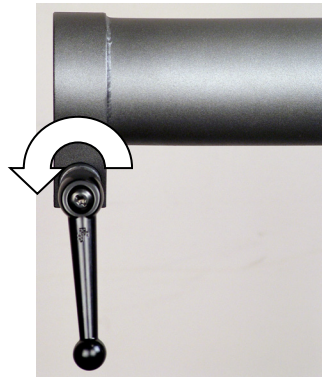

Figure 8-5. Loosen the Column Arm Locking Handle
Step 2. Turn the column arm locking handle, which is located on the right side of the arm, 1 turn counter-clockwise (Figure 8-5).
- Step 1. Turn the column arm locking handle, which is located on the right side of the arm, 1 turn counter-clockwise (Figure 8-5).